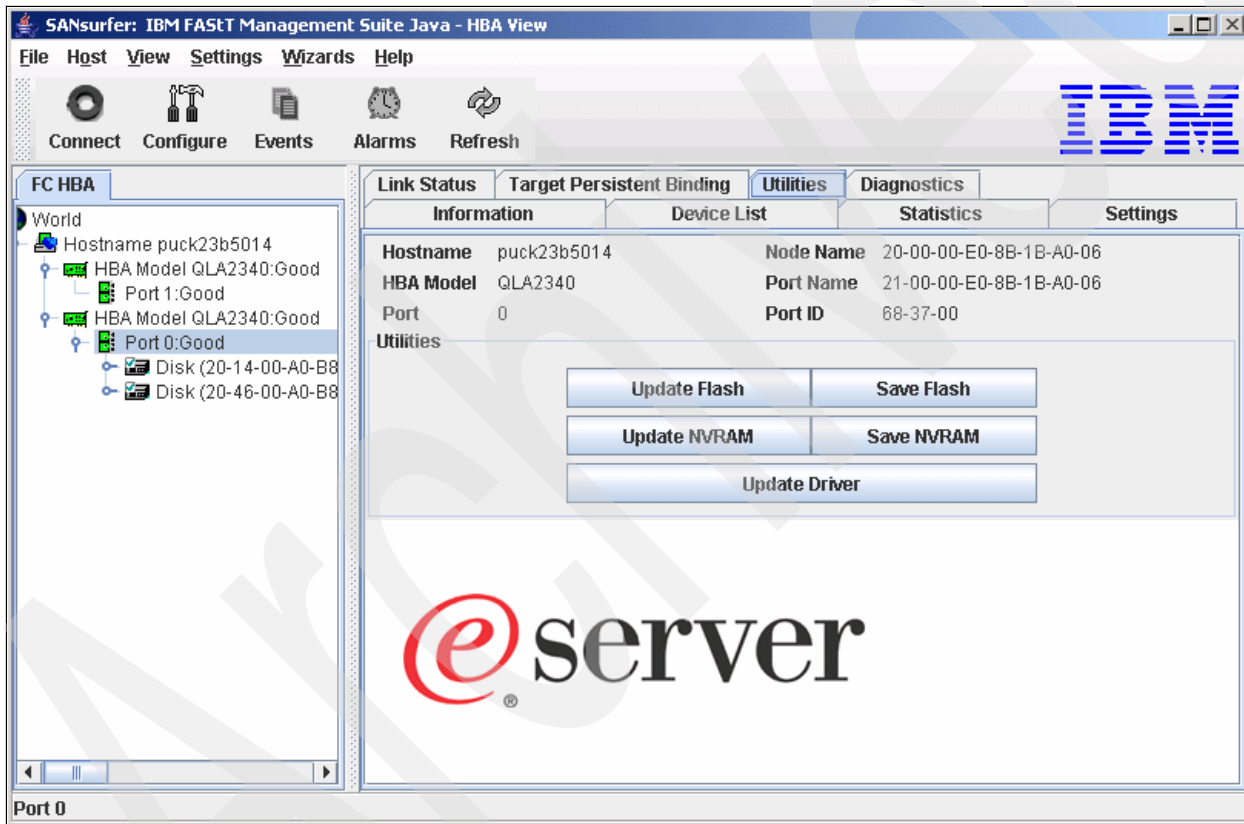

Figure 7-31 Qlogic SANsurfer Utilities tab
1. In order to update the BIOS version of the HBA, click the **Utilities** tab, and you will be presented with a window shown in Figure 7-31.